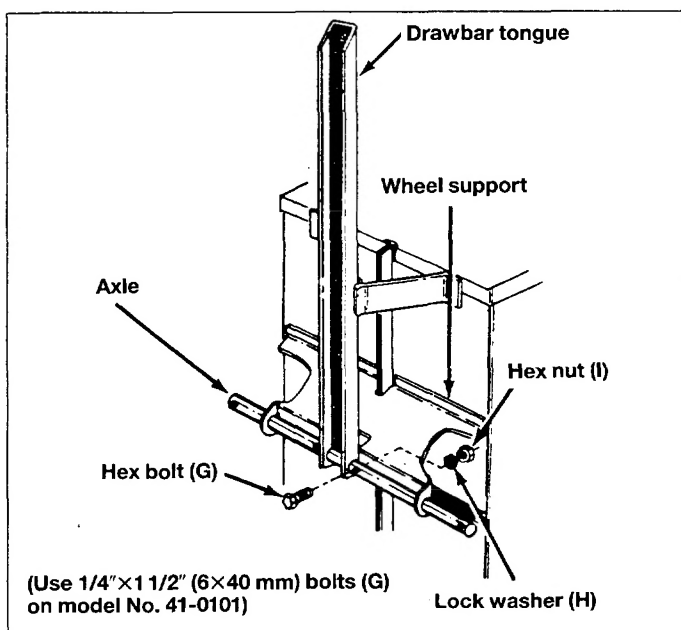

Fig. 11
16. Assemble axle and drawbar tongue to wheel support keeping open side of tongue facing down. Fasten axle to wheel support or axle brackets, using $1/4" \times 1 1/2"$ (6 \times 40mm) long hex bolts (G) lock washers (H) and hex nuts (I). See figure 11.